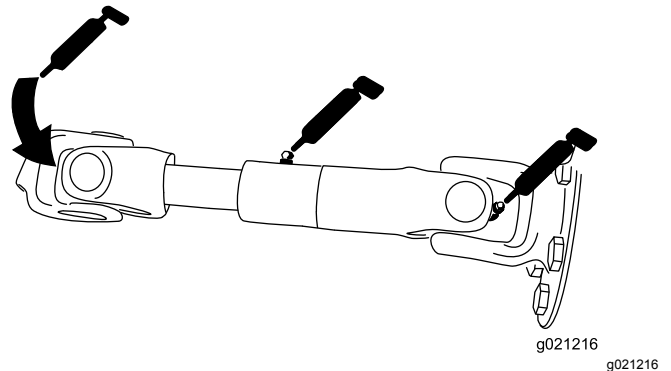

Figure 61
- Pump drive shaft (3) (Figure 61)